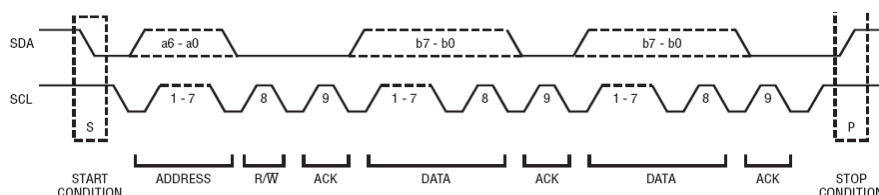

Figure 6: Data Transfer through the PMBus
Start and stop conditions are signaled by the master device to indicate the beginning and the end of the PMBus transfer. A start (S) condition is defined as the SDA signal transitioning from high to low while SCL is high. A stop (P) condition is defined as the SDA signal transitioning from low to high while SCL is high (see Figure 6 on page 26).